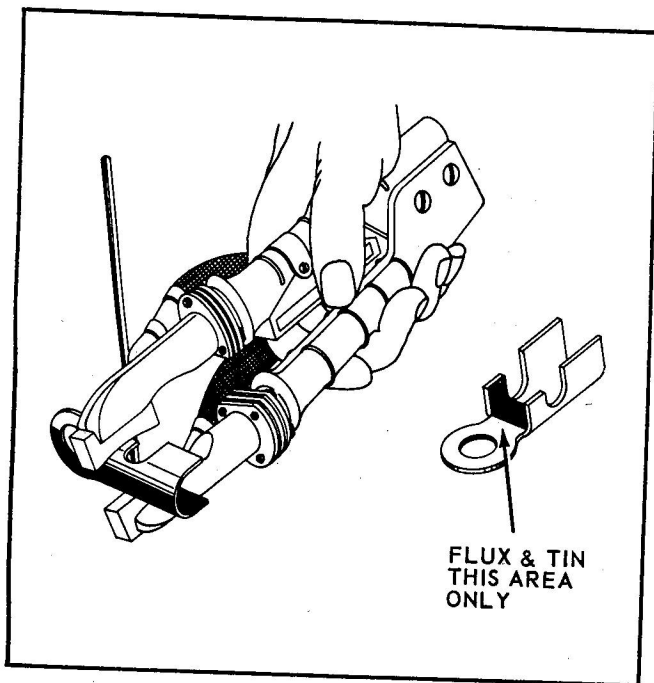

Figure 6-10. Resistance Tinning of Terminal
- b. Using a torch or the resistance heating pliers, melt a thin coat of silver solder onto inside of wire grip. See Figure 6-10 for use of resistance heating pliers in this operation.
- a. Grasp terminal and wire assembly, prepared in accordance with paragraph 6-20, at wire grip area. The resistance heating pliers are to be in same position as shown in Figure 6-10.